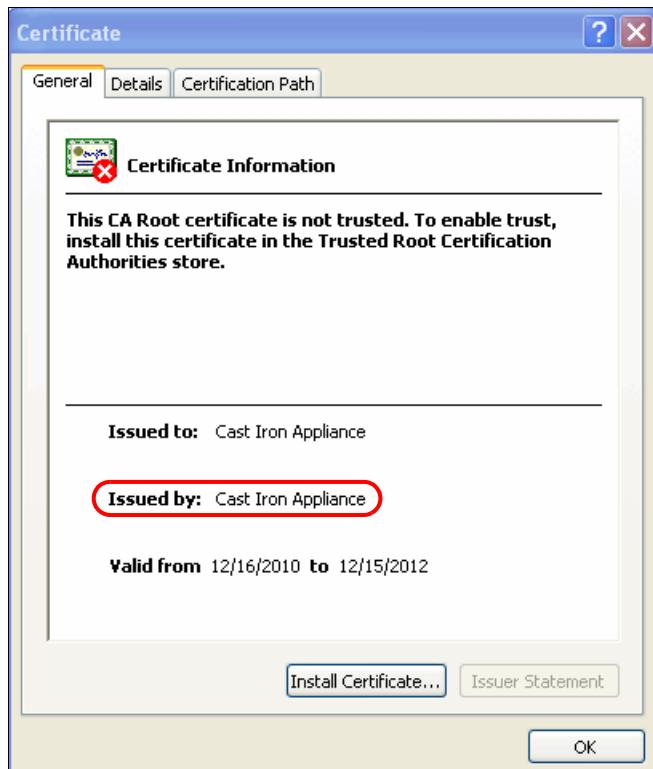

Figure 2-23 Certificate of the Integration Appliance
4. As indicated in Figure 2-23 on page 57, the Integration Appliance uses a self-signed certificate that was issued by Cast Iron Appliance to *Cast Iron Appliance*. As indicated by the "Valid from" date, the certificate is valid for two years from day of installation.